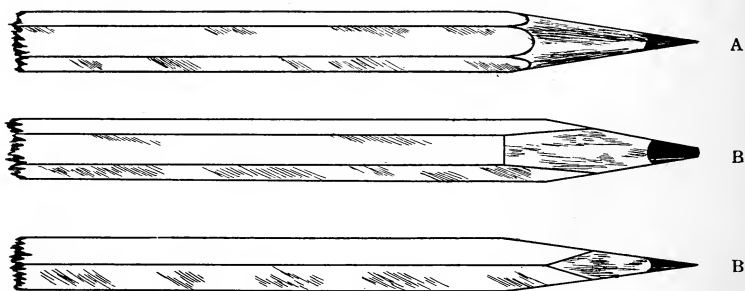

Fig. 3. Method of Sharpening Pencil. A. Conical Point. B. Chisel Point.
Sharpening of Pencils. One pencil should be sharpened to a conical or round point (A) for laying off, and the other to a chisel point (B) (Fig. 3), for drawing lines. To keep the pencil sharp rub the lead on a fine file or a piece of fine emery cloth or sand-paper tacked to a little block of wood.